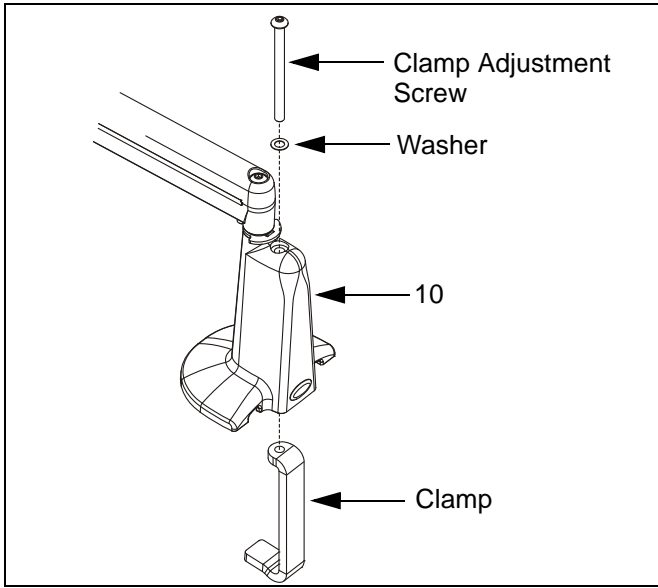

Figure 7: Remove Clamp Adjustment Screw
- Using 3/16" hex key, remove clamp adjustment screw, washer, and clamp (See Figure 7). Retain clamp adjustment screw and washer for later use.